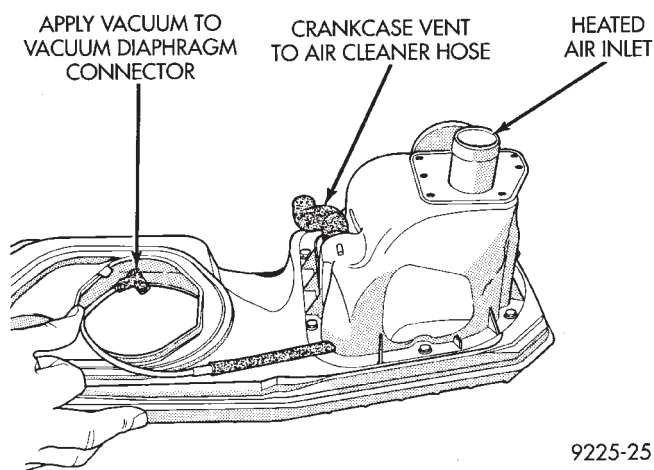

Fig. 3 Testing Vacuum Diaphragm on Heated Air Inlet Systems
(1) Inspect the condition of the heat stove to air cleaner flexible connector and all vacuum hoses. Inspect them for proper attachment. Replace as necessary.
(2) With a cold engine and ambient temperature less than 46°C (115°F.), the heat control door (valve plate) should be in the **up (heat on position)**.
(3) With the engine warmed up and running, check the temperature of the air entering the snorkel or passing the sensor. When the temperature of the air entering the outer end of snorkel is 60°C (140°F.) or higher, the door should be in the **down (heat off) position**.
(4) Remove the air cleaner from the engine and allow it to cool down to 46°C (115°F). With 20 inches of vacuum applied to the sensor, the door should be in the **up (heat on position)**. If the door does not rise to the **heat on** position, check the vacuum diaphragm for proper operation.
(5) To test the diaphragm, apply 20 inches of vacuum to it with vacuum pump tool number C-4207 or equivalent (Fig. 3). The diaphragm should not bleed down more than 10 inches of vacuum in 5 minutes. The door should not lift off the bottom of the snorkel at less than 2 inches of vacuum. The door should be in the full **up** position with no more than 4 inches of vacuum.
(6) If the vacuum diaphragm does not perform adequately, replace the heated air assembly.